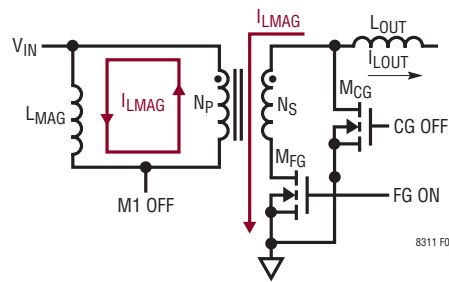

Figure 3. With FG On, I_{LMAG} Is Conducted Through M_{FG} to Ground on the Secondary Side When M1 Turns Off
the primary winding voltage gets smaller too, effectively moving SWP towards V_{IN} . Since M_{FG} is still on, and M_{CG} 's body diode is on, the secondary winding voltage gets clamped at about a diode voltage. Through transformer action, SWP gets clamped to approximately V_{IN} . I_{LMAG} flows in the secondary windings, as shown in Figure 3, flowing from the drain to source of M_{FG} , to ground. M_{CG} 's body diode sources $I_{L_{OUT}}$ and I_{LMAG} .
2. **Resonant Reset Case (blue waveform):** Resonant reset ultimately completes when SWP's quasi-sinusoidal waveform returns to V_{IN} , by which point I_{LMAG} is reset to a negative value. FSW is eventually clamped by M_{FG} 's body diode, and conducts I_{LMAG} , through the secondary windings, towards the output inductor (similar to Figure 3, but with I_{LMAG} direction reversed on primary and secondary sides). With a diode voltage imposed across the secondary windings, transformer action